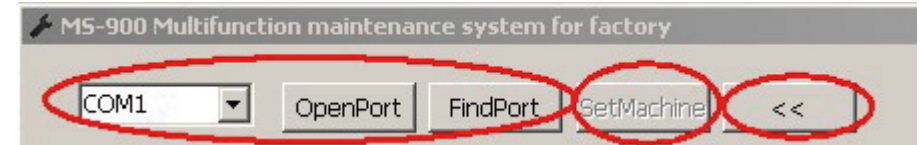

figure 1
2. Click FindPort , Software search port and connect device automatically, click Close to close the connection. (figure 1)